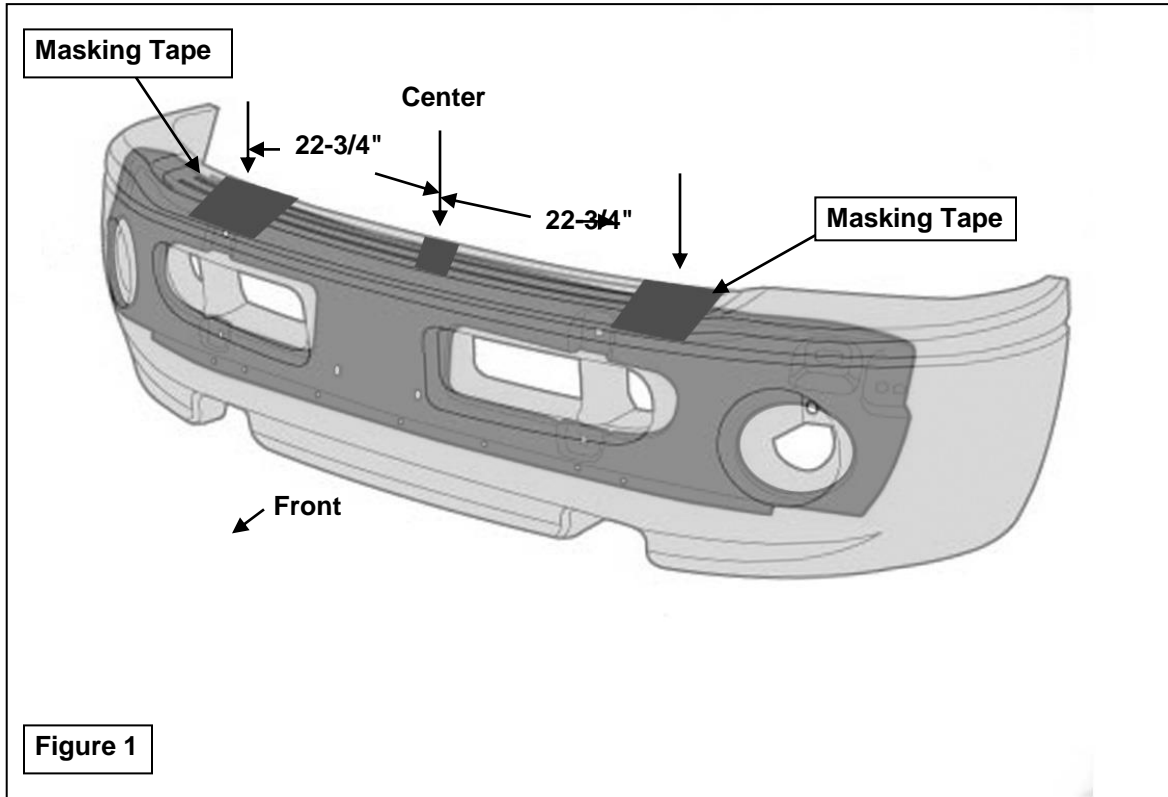

Figure 1
2. Open the front hood. Measure to locate the approximate top-center of the front bumper, (**Figure 1**). Use a small piece of removable tape to mark the center of the bumper, (masking tape for example). Measure outward from the center 22-3/4" along the top edge in both directions, (toward driver and passenger side). Cover these spots on the bumper with removable tape for protection and place a mark on each side at 22-3/4" (**Figure 1**).